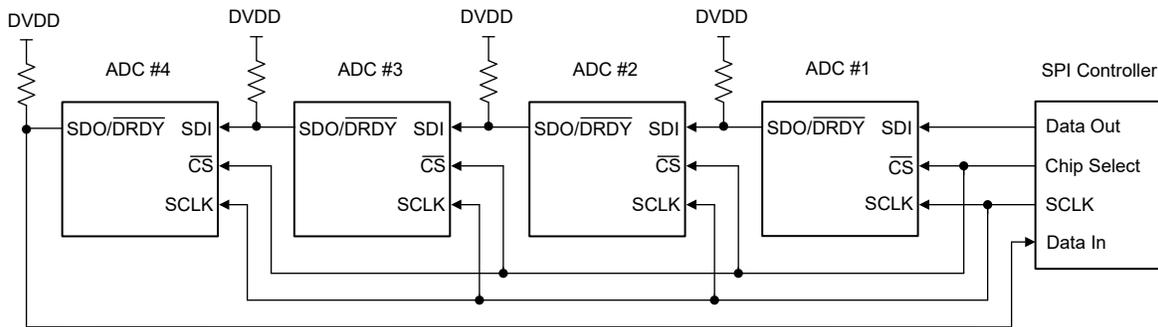

Figure 7-29. Daisy-Chain Connection
Figure 7-29 shows four devices connected in a daisy-chain configuration. SDI of ADS1x2S14 (1) connects to the host SPI data output, and SDO/ $\overline{\text{DRDY}}$ of ADS1x2S14 (4) connects to the host SPI data input. The shift operation is simultaneous for all devices in the chain. After each ADC shifts out the conversion data, the data of SDI appears on SDO/ $\overline{\text{DRDY}}$ to drive the SDI of the next device in the chain. The shift operation continues until the last device in the chain is reached. The SPI frame ends when $\overline{\text{CS}}$ is taken high, at which time the data shifted into each device is interpreted. For daisy-chain operation, program the SDO/ $\overline{\text{DRDY}}$ pin to data output only mode (SDO_MODE = 0b) and disable continuous-read mode (CONT_READ_EN = 0b).
Figure 7-31 shows the detailed input data sequence for the daisy-chain write register operation of Figure 7-29. 48-bit frames for each ADC are shown (24 bits of data, with the STATUS header and CRC enabled). Command operations can be different for each ADC. A register read operation requires a second frame operation to read out the register data.
Figure 7-32 shows the data sequence to read conversion data from the device connection provided in Figure 7-29. This example illustrates a 32-bit output frame (24 bits of data, with CRC enabled). The conversion data of ADC (4) is shifted out first in the sequence, followed by the data of ADC (3), and so on. The total number of SCLKs required to shift out the data is given by the number of bits per frame × the number of devices in the chain. In this example, 32-bit output frames × four devices result in 128 total clocks.